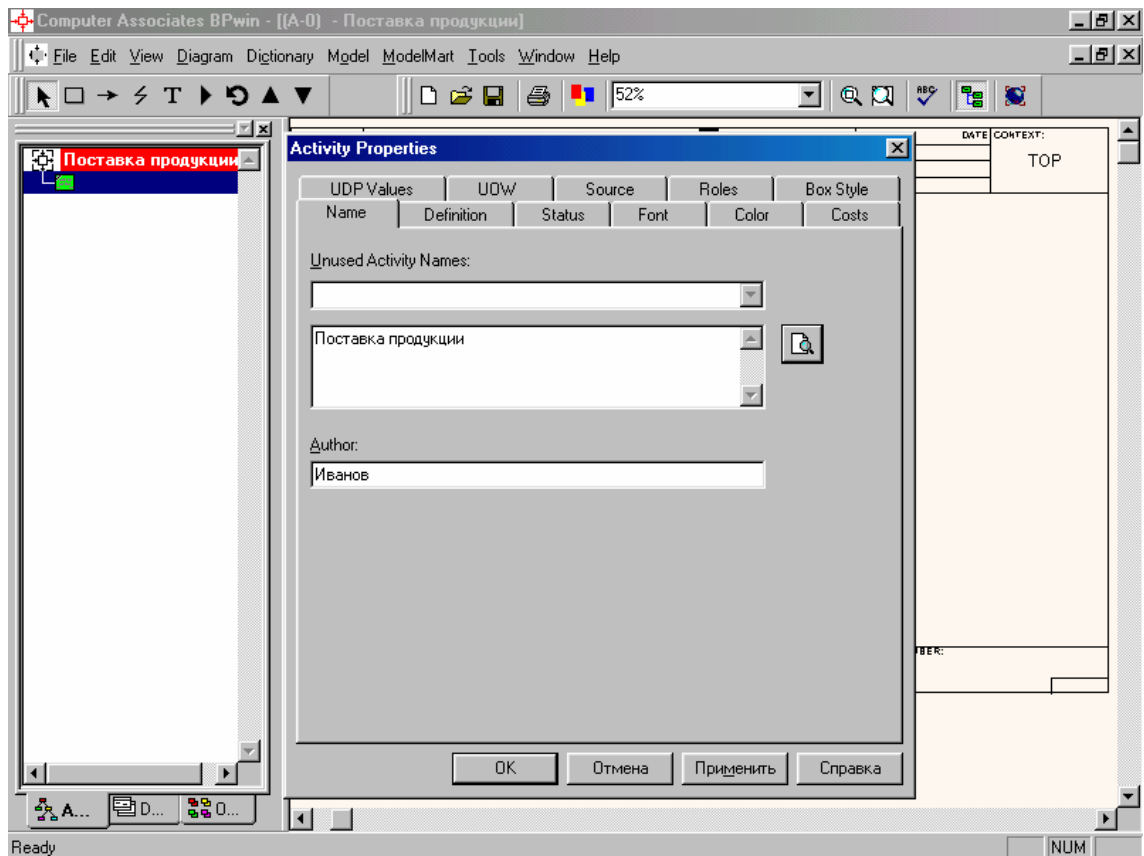

Figure 1.4
9. Go to the context chart and right-click on the job. In the menu, select "Name ..." and enter the name "Product Delivery" (Figure 1.4).